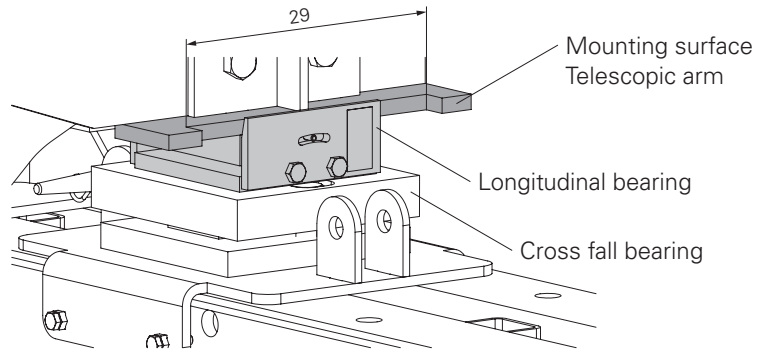

Fig. C1.05
- The bearing frame has a 29-cm-long recess. This allows longitudinal adjustment of the truss package by up to 13 cm. (Fig. C1.05 – C1.06)
- If the horizontal bearing (33) needs to be shifted to reach the exact position, see "Aligning the horizontal bearing" on page 48.